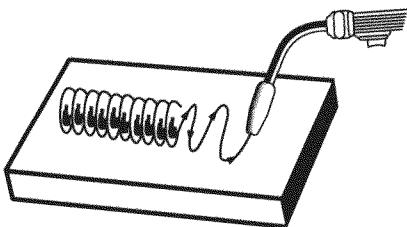

Figure 13. Weave Bead
2. The WEAVE BEAD (Figure 13) is used when you want to deposit metal over a wider space than would be possible with a stringer bead. It is made by weaving from side to side while moving with the torch. It is best to hesitate momentarily at each side before weaving back the other way.